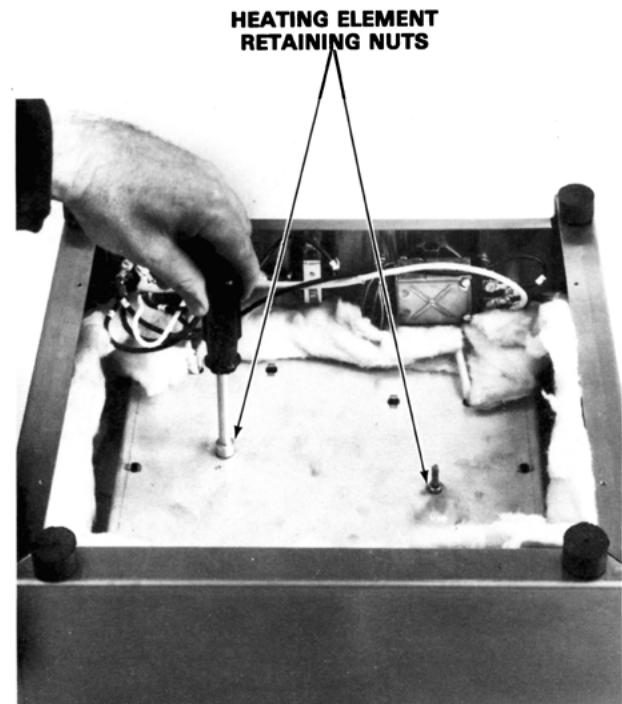

Figure 3
- Remove the 2 heating element retaining nuts holding the pan. (See Figure 3)